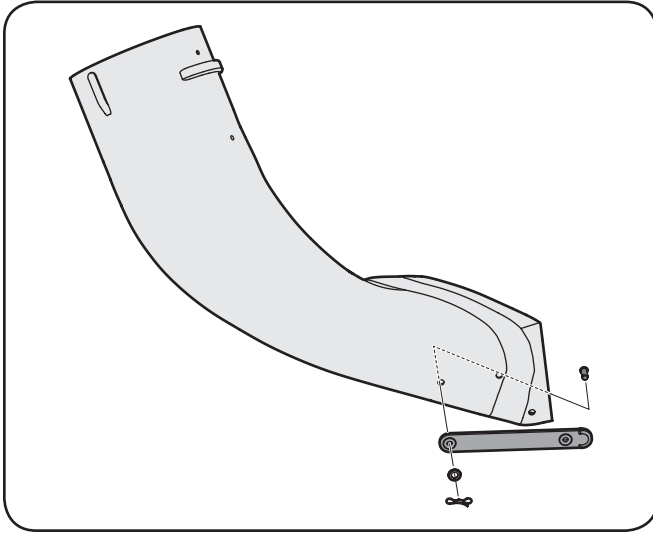

Figure 4-20
9. Install the rubber chute strap (723-04008A) onto the chute elbow using clevis pin (711-05063), washer (736-0204) and Bow-tie cotter pin (714-04040) from hardware pack 689-00091. See Figure 4-20.